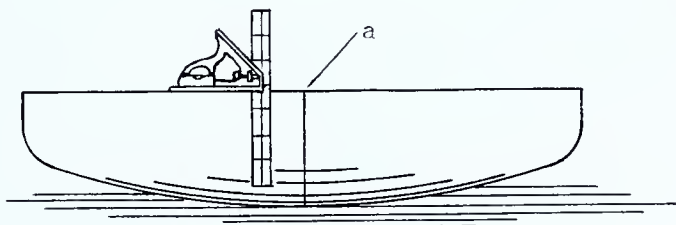

FIG. 270 — Step 8
8. Use the combination square as shown in Fig. 270 and mark with soapstone the line shown at *a* which registers with the mark made at *a* in Step 7.